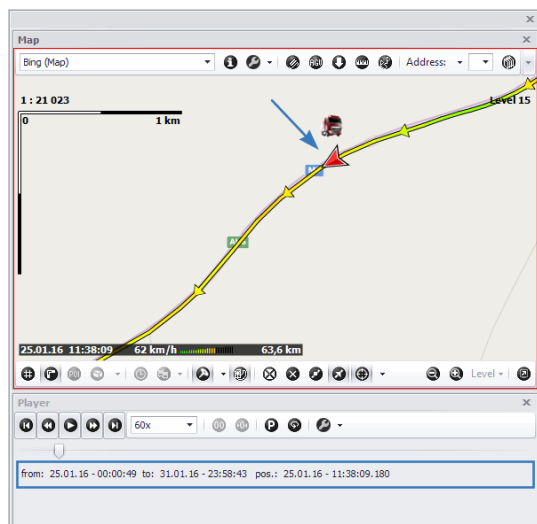

Fig. 186. Playback display.
- In addition, the indicator shows the current point parameters in the left bottom corner of the map (Fig. 186).